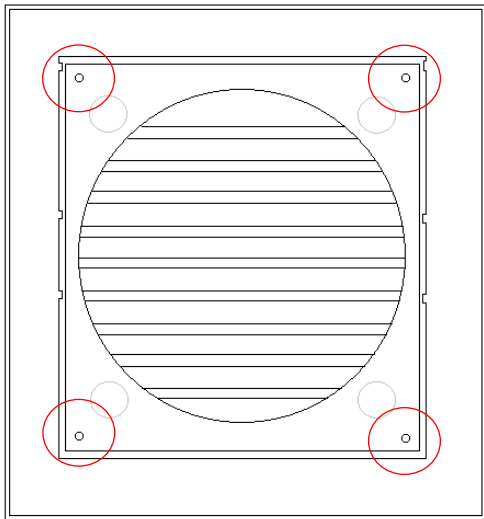

Fig.4
3. Remove the grille plate and fly screen from the back plate. The preformed holes for fixing the external grille to the brick will be located at each corner of the back plate. See Fig 4. Below.